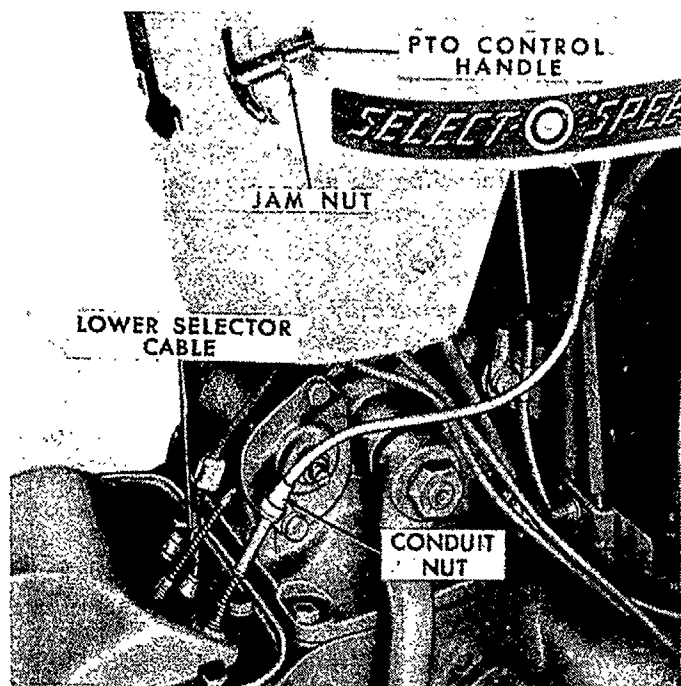

Figure 32
1. Pull the control handle all the way out and completely loosen the conduit nut, Figure 32, at the transmission cover.